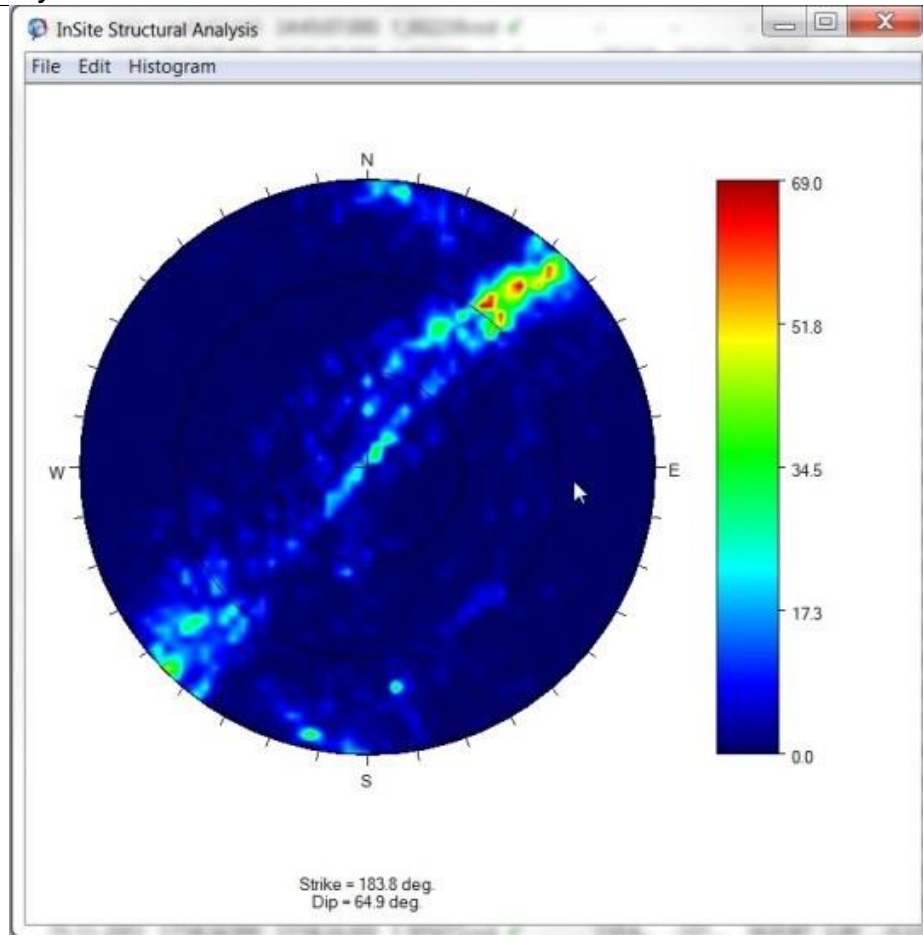

Figure 15-6: Output with the results of the structural analysis of a sample population of events.
3. The density distribution is automatically displayed (Figure 15-6). The scale limits and the colour scale can be adjusted clicking the Edit option in the stereograph window bar. The dip and strike angles are displayed below the plot when the cursor is hovered over the steorenet.